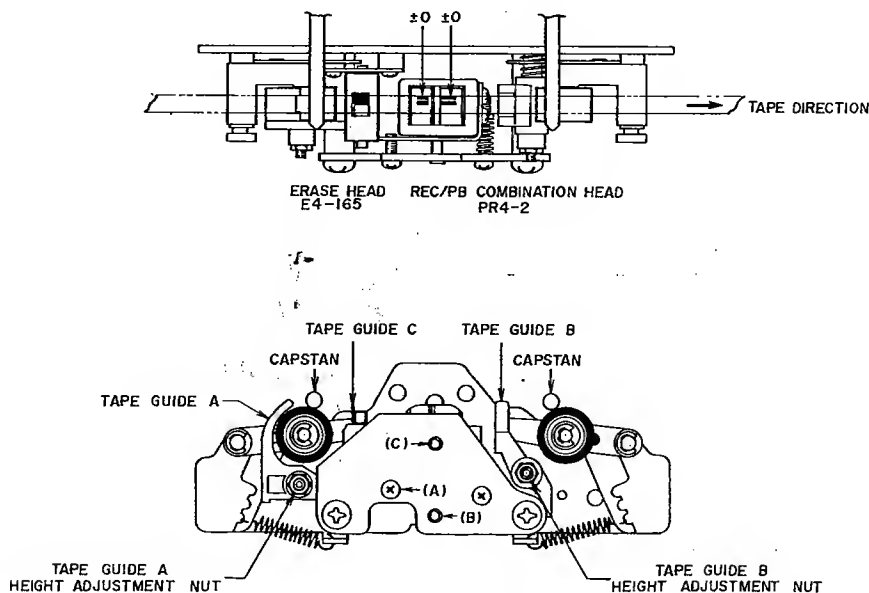
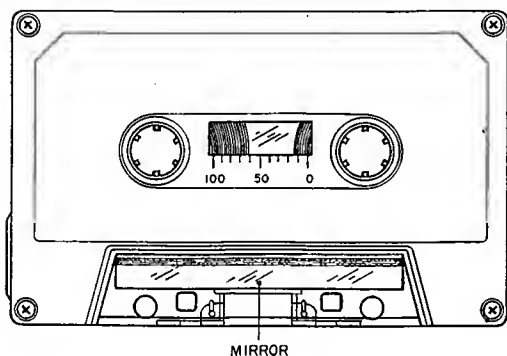

Fig. 14
Fig. 15
(Refer to Fig. 14 and Fig. 15)
- 1) When using an ordinary cassette, the tape guides and heads, etc. are not visible. As shown in Fig. 15, use a cassette tape from which part of the cassette case has been cut out and a mirror installed for easy visibility of the head area when making tape guide height adjustment.
- 2) At playback mode, using the erase head guide C shown in Fig. 14 as standard for height, adjust tape guide A and tape guide B height with tape guide height adjustment nuts so that the tape runs smoothly and does not catch on the tape guides.
(Refer to Fig. 14)
- 2) As shown in Fig. 14, adjust head height with screws (A), (B), and (C) until the upper edge of the tape is the same height as the upper edge of the left channel REC/PB Comb. head core.
3. AZIMUTH ALIGNMENT ADJUSTMENT OF RECORDING/PLAYBACK COMBINATION HEAD (Refer to Fig. 14)
- 1) Playback a 10 kHz pre-recorded cassette azimuth alignment test tape and adjust screw (A) shown in Fig. 14 to obtain maximum output on both channels.
- 4) Set Monitor Switch to "TAPE" position and adjust screw (A) shown in Fig. 14 to obtain maximum output on both left and right channels.
4. When a mirror installed cassette test tape as shown in Fig. 15 is required, it can be ordered from AKAI Electric Co.